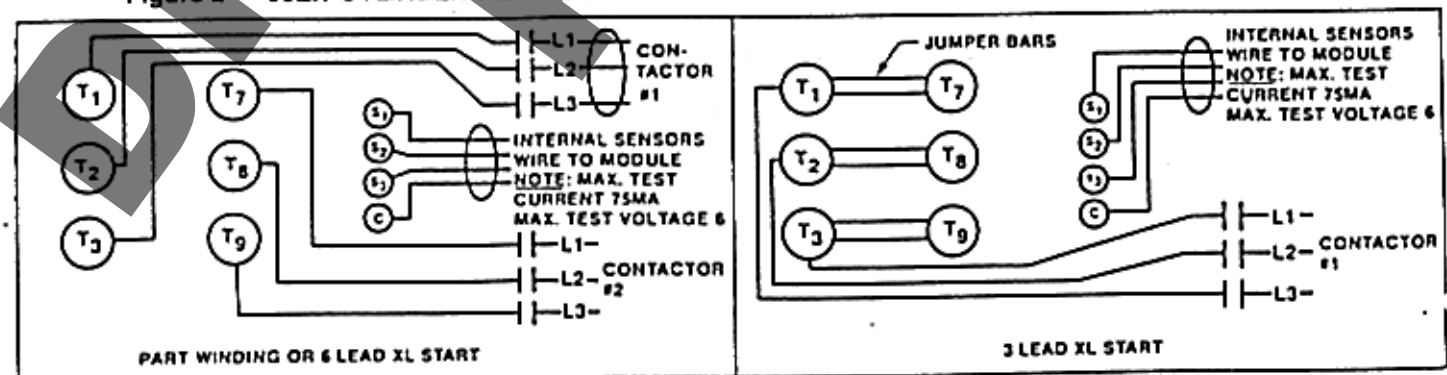

Figure 3 - 06EY-EZ ROBERTSHAW PROTECTED COMPRESSORS
All 06EY and 06EZ refrigeration duty service models are supplied with Robertshaw sensors embedded in the motor windings and either the centre head on six cylinder or side head on four cylinder models are tapped and plugged to accept a 1/2 MPT discharge temperature sensor. If original compressor has the sensor, transfer it to service compressor and install the plug in the return compressor. Use a good grade of pipe thread sealant such as John Crane plastic lead seal, insoluble #2 (Crane Packing Company) or equal. Wire the head sensor leads into the control circuit and complete the terminal box connections per Figure 3.
**WARNING:** Application to sensor terminals of any voltage or current in excess of those specified in Figure 3 results in immediate damage to sensors. Failure to use approved over current protection in conjunction with either the Robertshaw protection or the discharge temperature sensor constitutes abuse and warranty-credit may be denied.